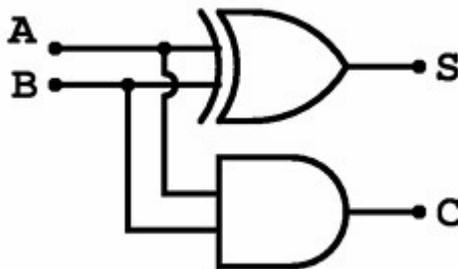

Figure 1: Half Adder using XOR and AND gate.
- 2) Design the half-adder shown in figure 1 in a block diagram file (bdf). Remember that the XOR and AND gates are available by clicking the "Symbol Tool" icon.